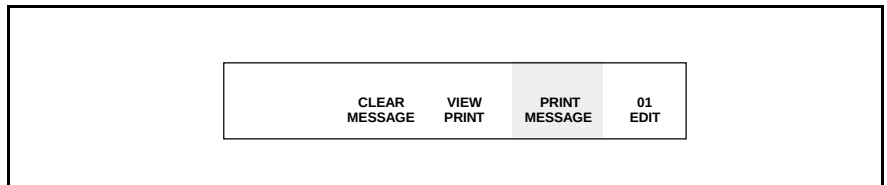

Figure 6-57. Frame <01 EDIT>
1. Begin in Frame <01 EDIT>. Refer to Figure 6-57.